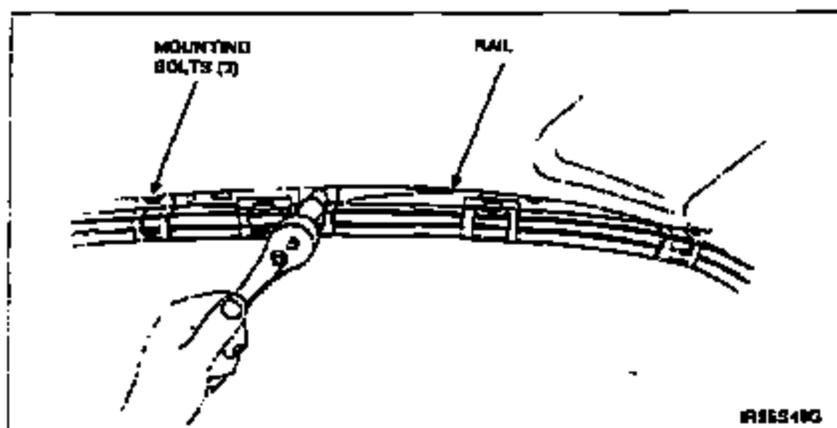

Figure 2
6. Remove the three (3) rail upper mounting bolts. See Figure 2.